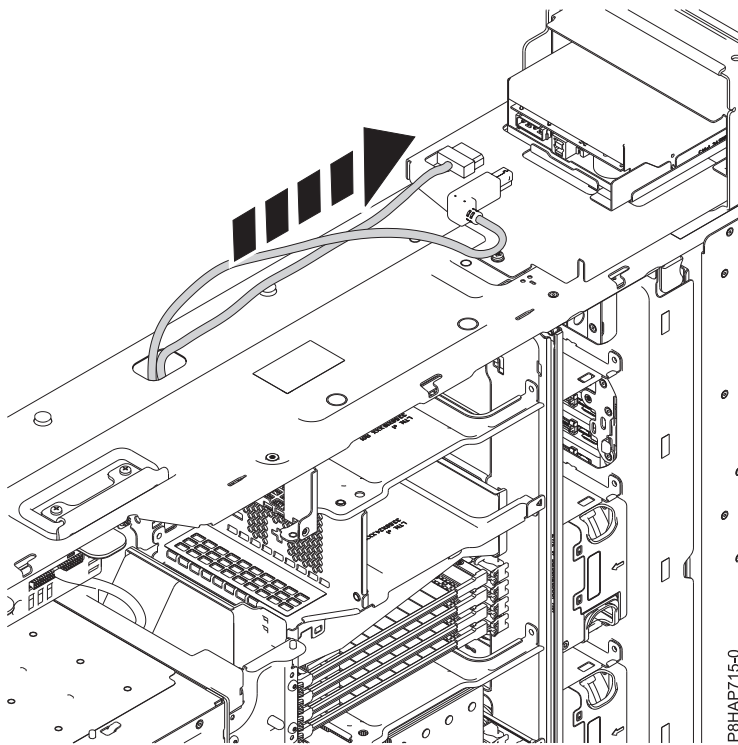

Figure 70. Connecting the USB and power supply cables to the back of the internal RDX docking station (FC EUA3)
6. Connect the power supply cable to the back of the internal RDX docking station (FC EUA3). See Figure 70.